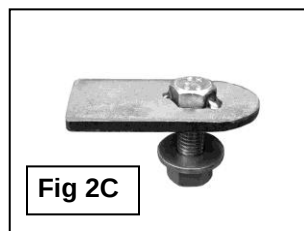
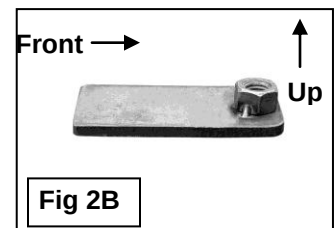

Fig 2C
Fig 2B
- 2. Start installation under the driver side front of the vehicle, (Figure 1).** Insert (1) 12mm Nut Plate into the large oval opening in the bottom of the frame channel and slide it forward in the frame with the flat side down against the frame channel and welded nut up, **(Figure 2B)**. Line up the threaded hole in the Nut Plate with the factory hole at the front of the frame, **(Figure 2A)**. Next, insert (1) 12mm Bolt Plate into the large oval opening and center the threaded bolt in the oval hole, **(Figure 2C)**.